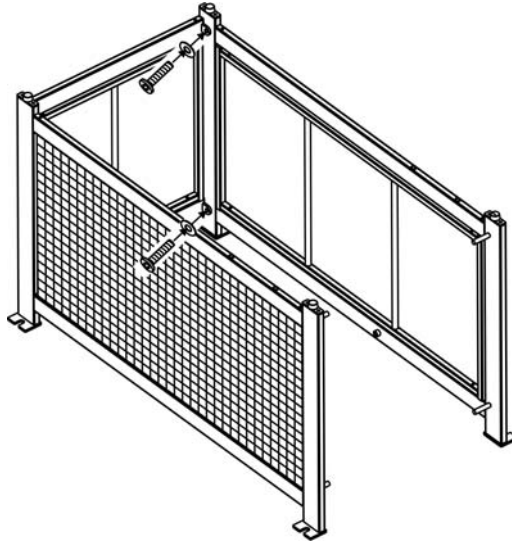

Figure 3
2. Attach the back panel to the side panels (1 and 2) by using four 1/4"x20 mm bolts and Ø6.5x1.0 mm washers as shown in Figure 3. Guide the bolts through the holes in back panel, into the pre-drilled holes in the side panels. **Hand tighten only.**